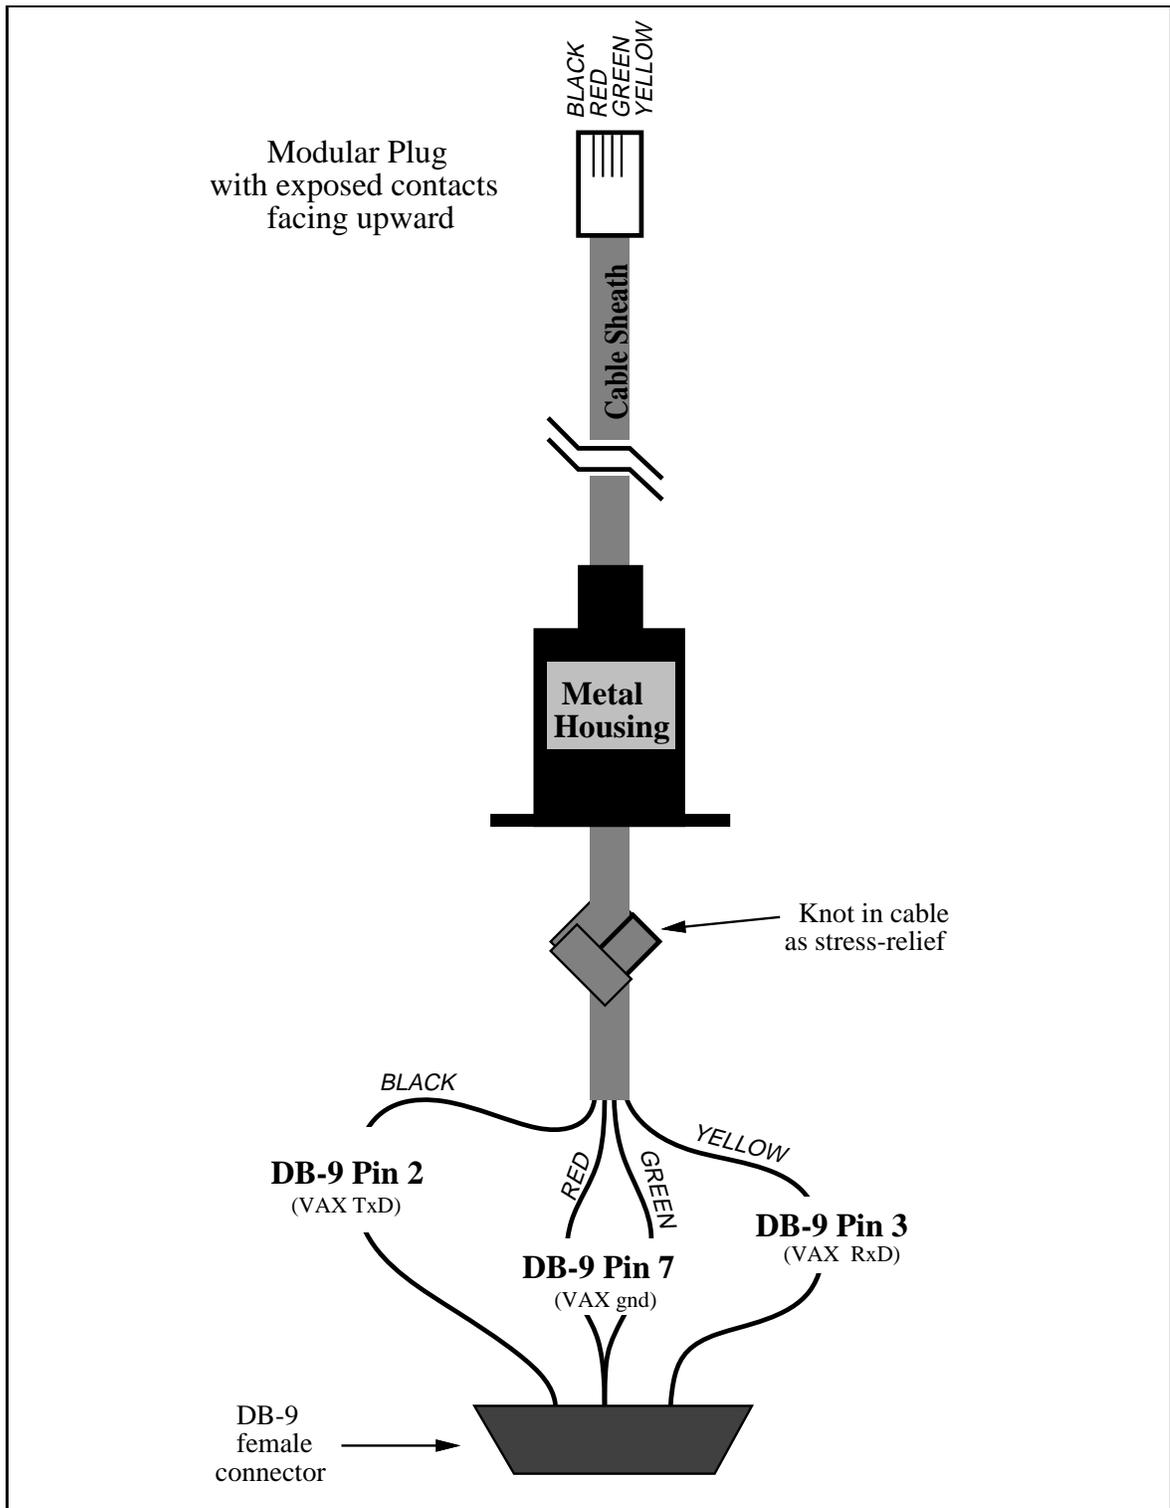

Figure 1.35: VAXstation 2000 Computer Cable Wiring Diagram
When building the cable adapter, be careful to follow the wiring directions precisely. Refer to Figure 1.35 as needed.
- Thread the wire ends through the metal housing as indicated in Figure 1.35.